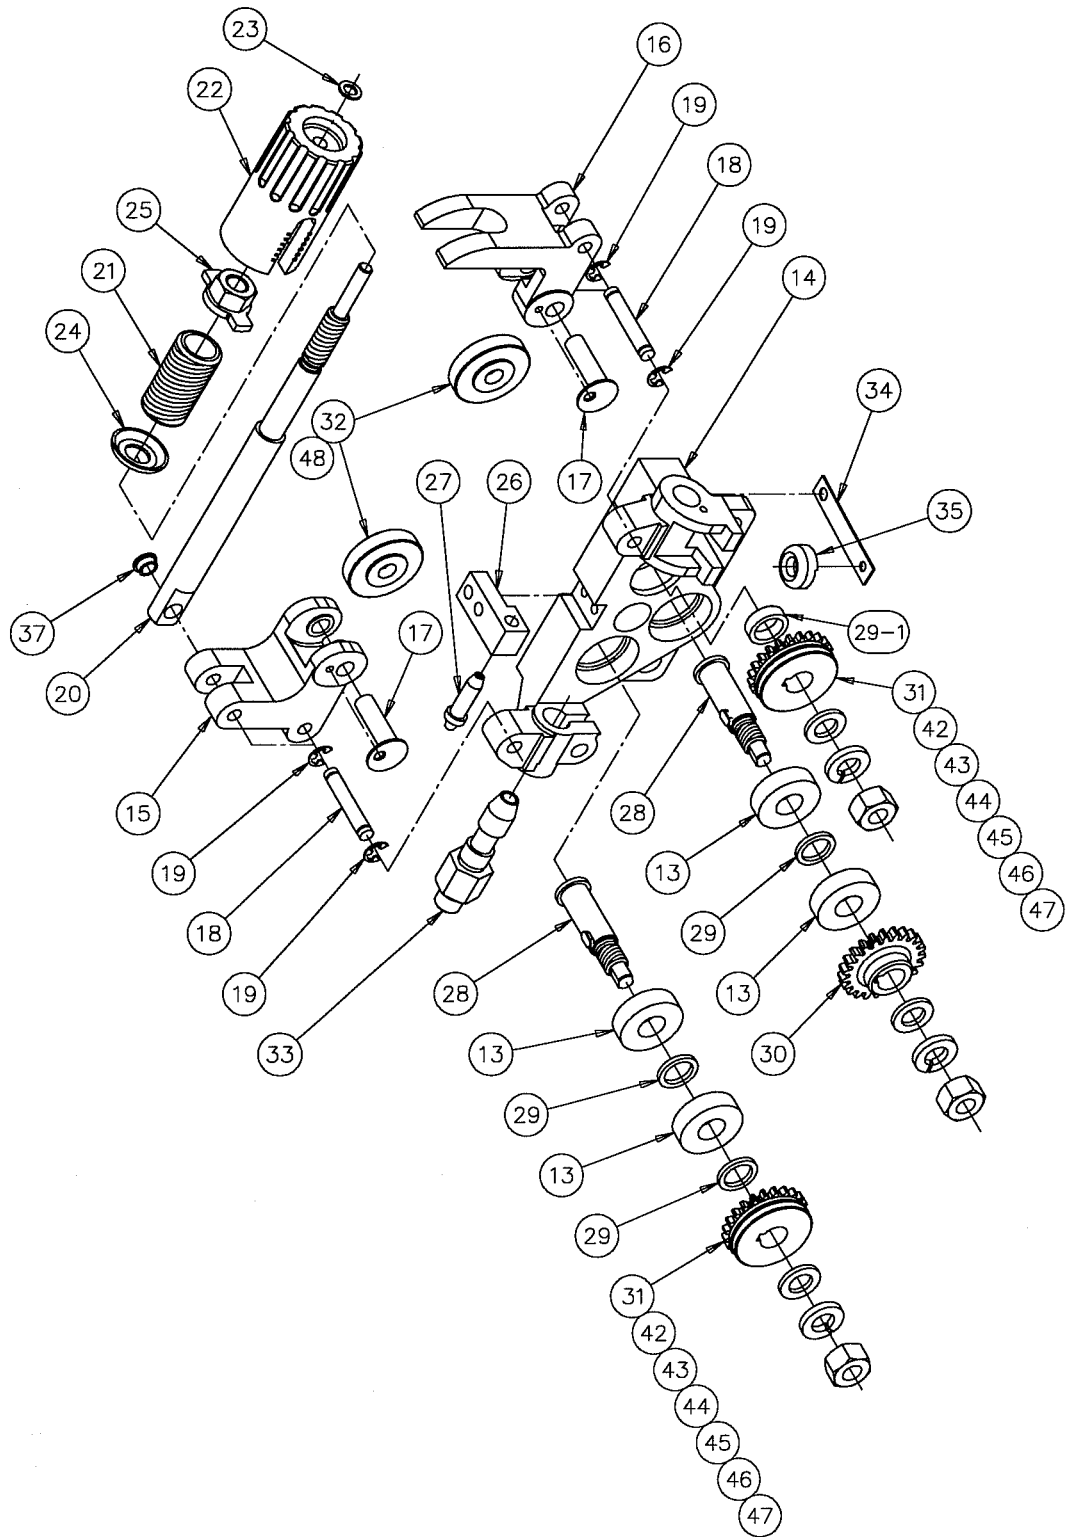

Fig. 9 Exploded drawing of wire feeding and pressure section
- ① Loosen the hexagon socket head cap screw (M6) and remove the attached guide adapter.
- ② Insert the wire straightener as indicated in Fig.9 and tighten the hexagon socket head screw (M6).
- ③ Turn the control of the wire straightener to the appropriate mark.